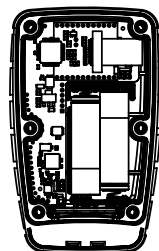

Figure 10. Batteries in the transmitter
9. Replace the back side of the transmitter (see fig. 10).
7. Mount the back side of the transmitter (see fig. 10).